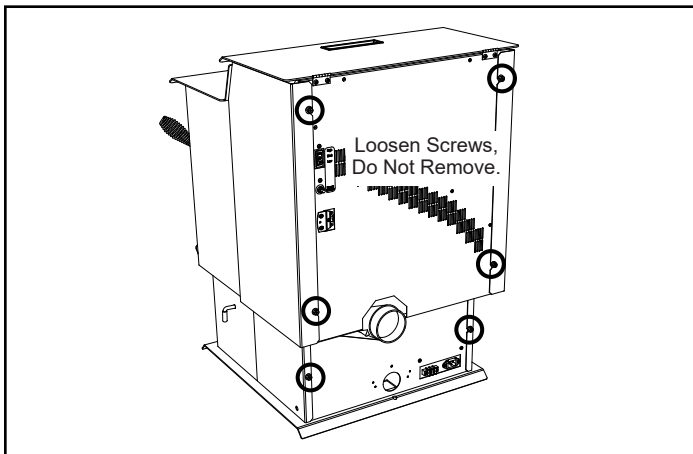

Figure 24.1
2. Using a Phillips screwdriver, a 3/8 inch wrench, or a 3/8 inch socket, loosen the three (3) bolts from the back side of the appliance (**Figure 24.1**).